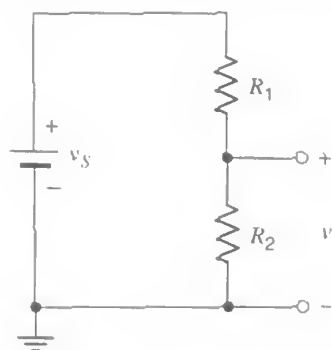

Fig. 5
11. Construct the voltage divider shown in Fig. 5, using two different-valued resistors with values of several  $k\Omega$  each. Set  $v_S$  to any convenient value, measure  $v$ , and verify that it satisfies the voltage divider formula:
14. Replace the two resistors of Fig. 5 by the potentiometer, as in Fig. 7. Use any convenient value for  $v_S$ . Observe the effect of the potentiometer setting on the value of  $v$ . What are the minimum and maximum attainable values of  $v$ , in comparison to  $v_S$ ?